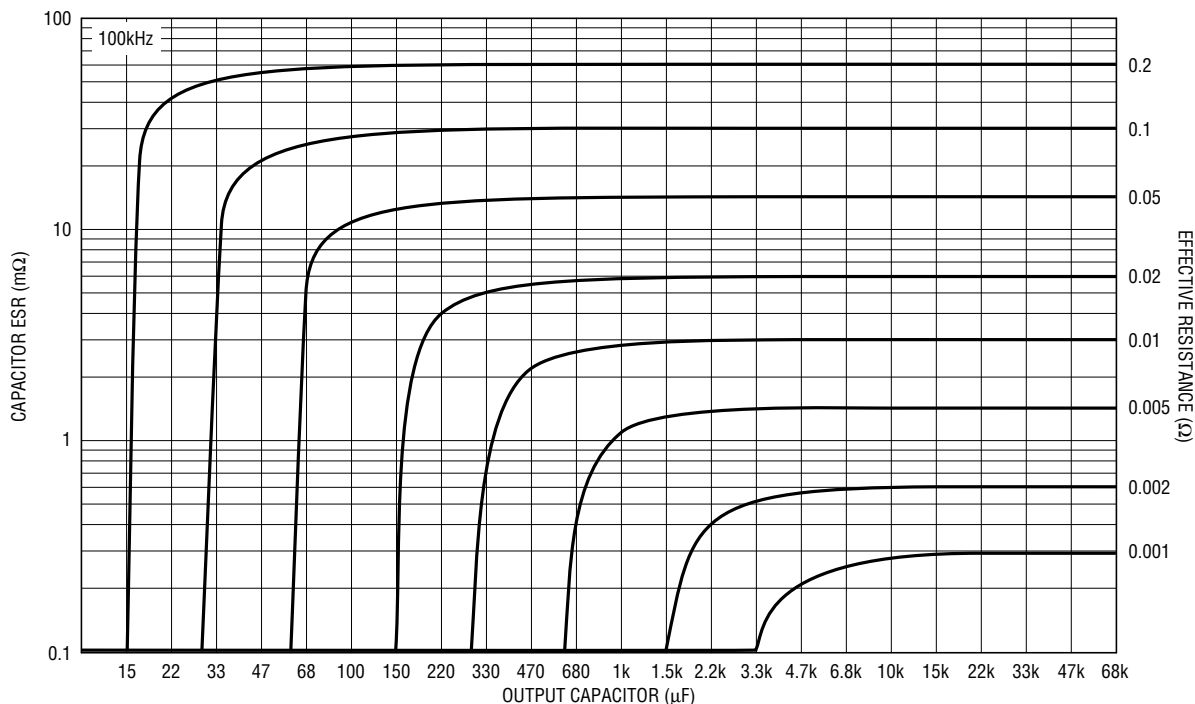

Figure 59. RMS Current to Peak-to-Peak Ripple
Figure 59 is a guide to assist in output capacitor selection and/or estimating peak-to-peak output ripple voltage. Divide the output ripple specification (expressed in  $mV_{P-P}$ ) by the maximum output capacitor RMS current obtained from the design graphs to determine the effective resistance needed in the output capacitor. Using the right-hand scale of Figure 59, follow the isocline that approximates the needed effective resistance, calculated above. Looking at the scale to the left, determine the maximum allowable value for total capacitor ESR. Pick a capacitor for the output, and plot its capacitance and ESR on Figure 59. If the point is outside the effective-resistance isocline, you will either need to pick another capacitor or parallel multiple capacitors.
1. You must parallel capacitors of the same capacitance and ESR to correctly use Figure 59.
- Plot the  $15\mu\text{F}$ ,  $0.001\Omega$  capacitor on Figure 59.
### DENORMALIZING FIGURE 59 FOR OTHER FREQUENCIES
As far as Figure 59 is concerned, a  $100\mu\text{F}$  capacitor at  $100\text{kHz}$  will look like a  $60\mu\text{F}$  capacitor at  $60\text{kHz}$ . All other parameters stay the same. To plot a capacitor of  $x\mu\text{F}$  operating at  $y\text{kHz}$ , first calculate a new capacitance,  $z$ , where  $z(\mu\text{F}) = y(\text{kHz})/100\text{kHz} \cdot x(\mu\text{F})$ , then plot on Figure 59 using its native ESR value.